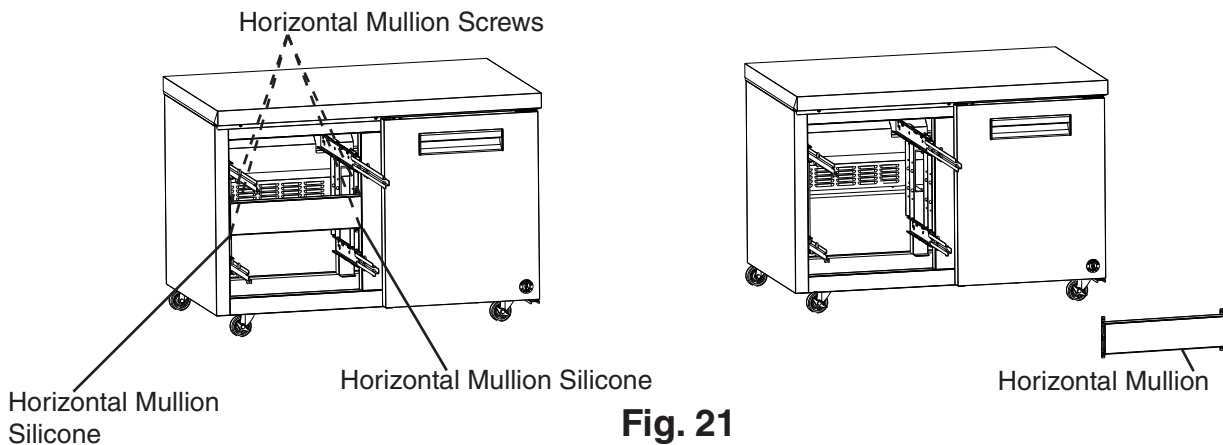

Fig. 21
3) Remove the 4 horizontal mullion screws, then cut the horizontal mullion silicone loose and remove the horizontal mullion. See Fig. 21.